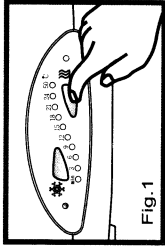
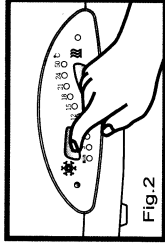

Fig.1
Fig.2
You may press the front "UP" Button (5) [as Fig.1] or "Down" Button (4) [as Fig.2] to select your required temperature and the 10 green LED indicators (3) will show your temperature selection. The sensors inside the unit detects the temperature of the aluminium container and the CPU will compare it with your temperature setting to decide whether it should be "Cooling" or "Warming".